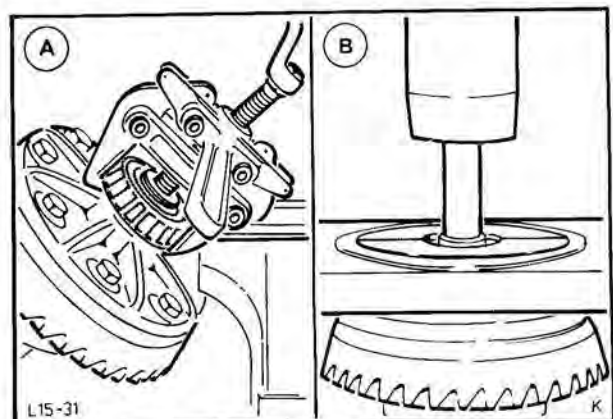

Fig. 60. Remove taper roller bearings from differential housing
7. Remove taper roller bearings from both sides of differential housing with the Special Tool, Fig. 60. To do this, clamp Special Tool in vice by one leg and pull off bearings.